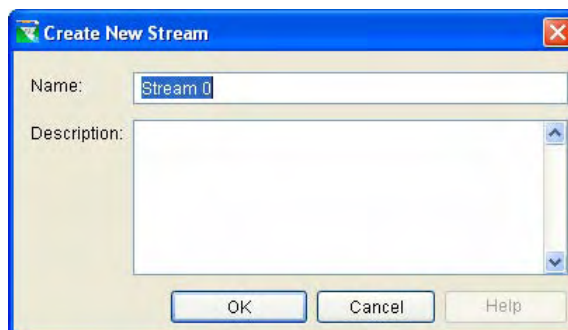

Figure 5.7 Create New Stream
6. The **Create New Stream** dialog box (Figure 5.7) opens. You can either accept the default name or enter a new name. Also, you can enter a description for the stream element. Click **OK** to close the **Create New Stream** dialog box.